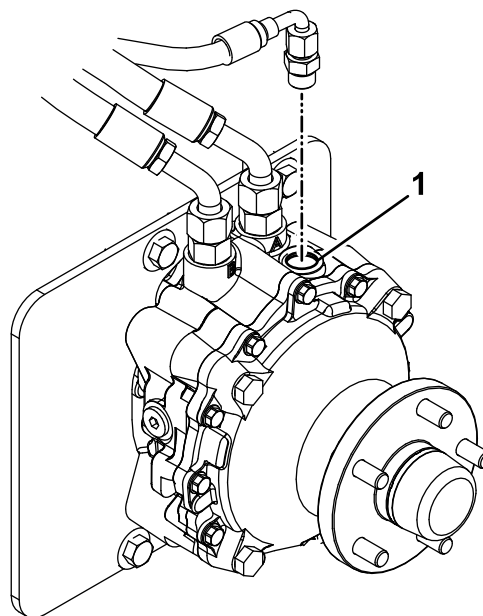

Figure 72
9. Remove the fill-port plug on the top of each wheel motor (Figure 72).